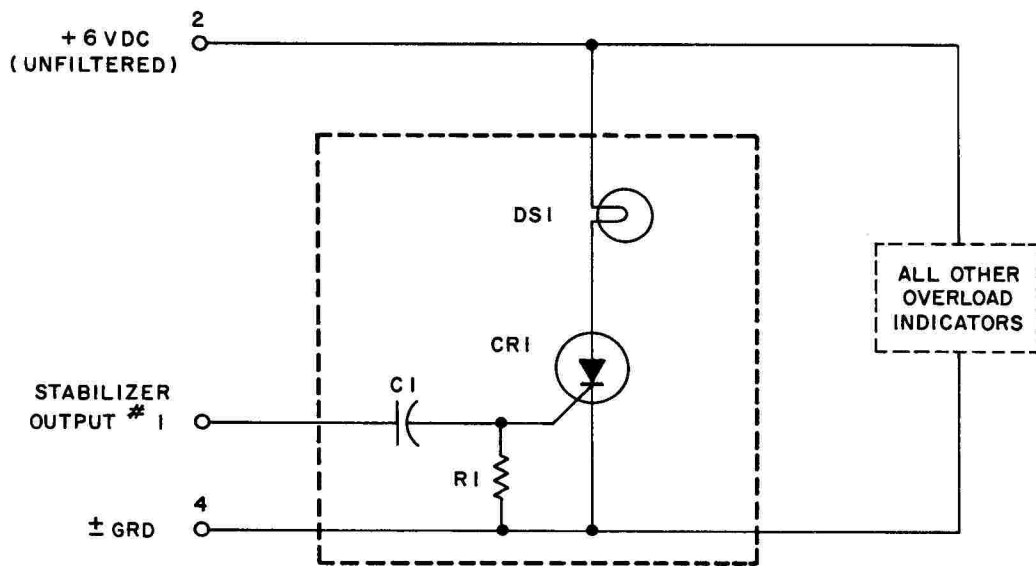

Figure 60. Overload Indicator, Simplified Schematic
(2) Circuit Description. When an amplifier is overloaded, a large 60 cycle square wave signal appears at the output of the stabilizer section. This signal is applied to the overload indicator circuit associated with the amplifier as shown in Figure 60. The square wave signal is applied through a capacitor (C1) to the anode control gate of silicon controlled rectifier CR1. The positive alternation of the square wave input, developed across R_1 , cause the SCR to conduct illuminating DS1. Once conduction is initiated in the diode, the gate loses control over conduction. Therefore, in order to extinguish the lamp, the anode to cathode voltage must be reduced to a point insufficient to cause current flow. This is accomplished by supplying the +6 volts from an unfiltered power supply. This causes the voltage to fall to zero 120 times each second, causing the lamp to go out when the overload is removed.